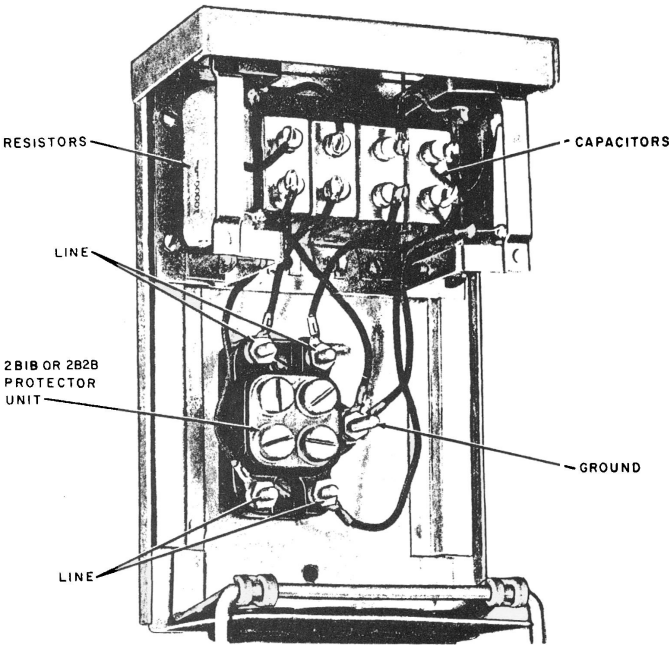
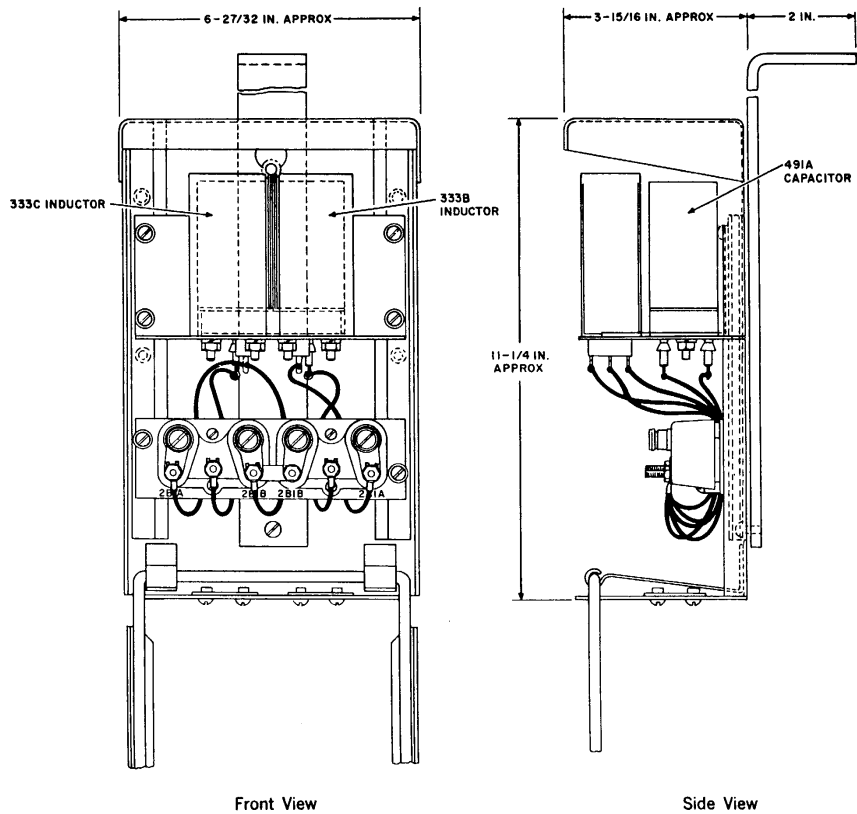

Fig. 1—Inside of 104B Protector
Fig. 2—108C Protector
**2.01** The 104B protector (Fig. 1) and 108-type protectors (Fig. 2) are designed to limit the voltages that may be induced in C rural wire telephone circuits as a result of exposure to nearby power circuits. By providing balanced drainage paths from the two sides of the telephone circuit to ground, the protectors reduce the induced voltages to safe values without interfering with the normal operation of the circuit. The voltage induced in the telephone circuit depends principally on the voltage of the power circuit to ground, the distance between the telephone wires and the power wires, and certain characteristics of the telephone circuit. Each protector will serve two telephone circuits.